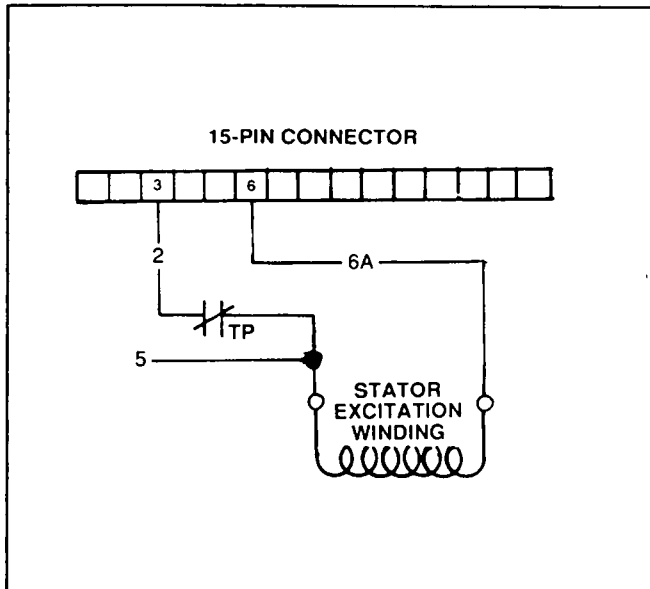

Figure 10. Thermal Protector Test Points
3. See Figure 10. Connect one VOM test probe to Pin 3 of the 15-pin connector plug (Wire No. 2 attaches to Pin 3.)